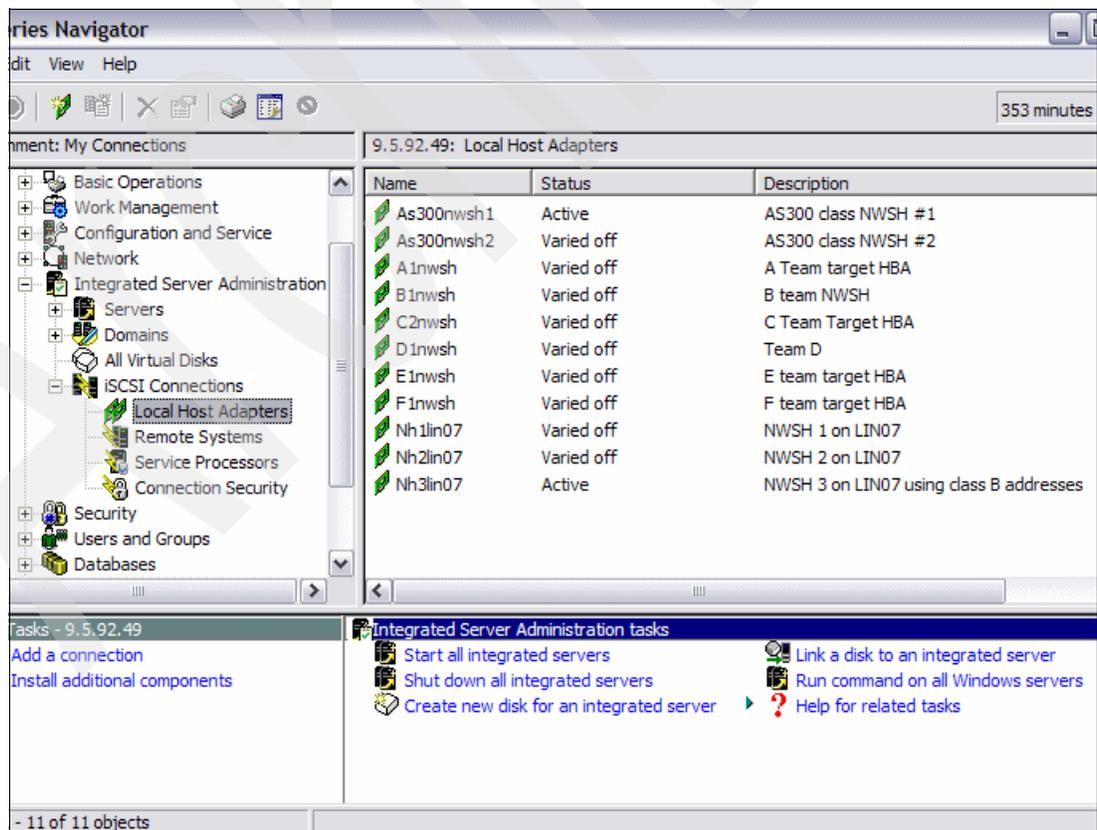

Figure 4-13 Select Local Host Adapter
- Expand **Integrated Server Administration** → **iSCSI Connections** → **Select Local Host Adapters** (Figure 4-13).